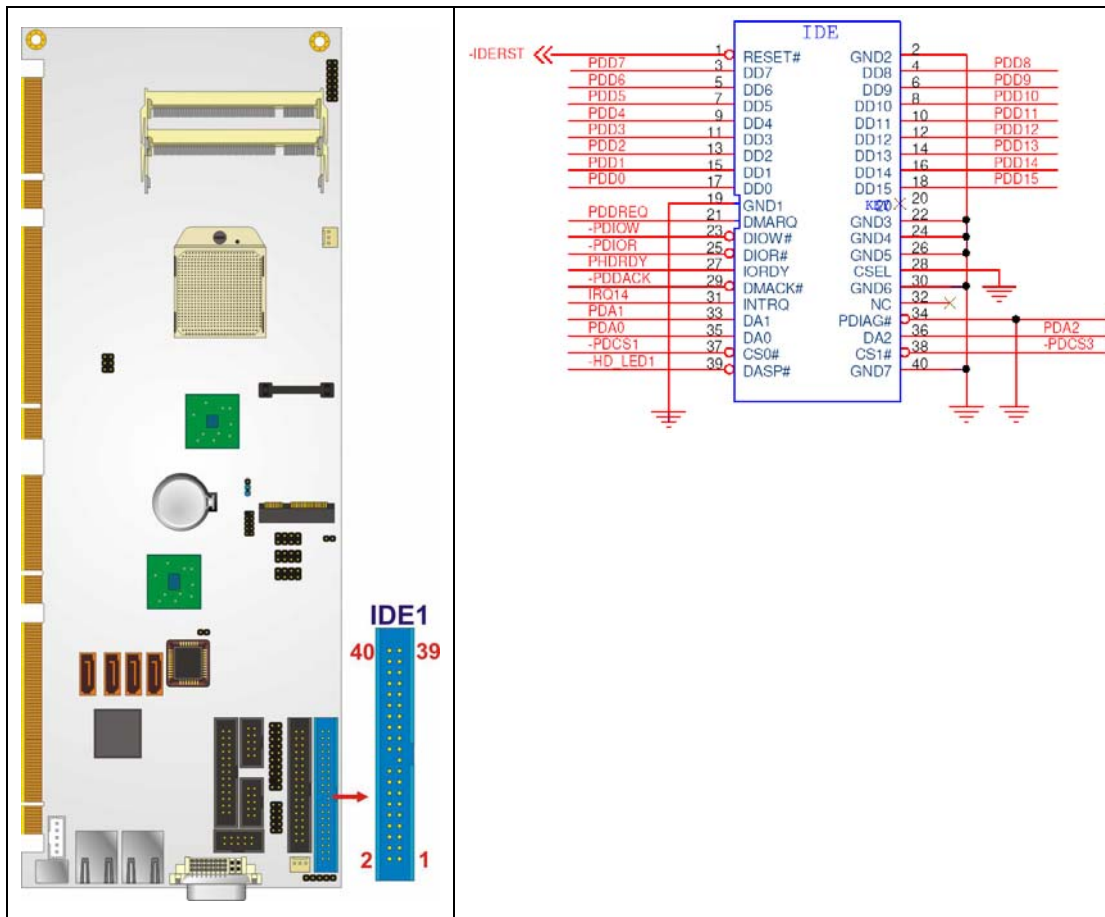

Figure 4-7: IDE Device Connector Locations
- CN Location:** See Figure 4-7